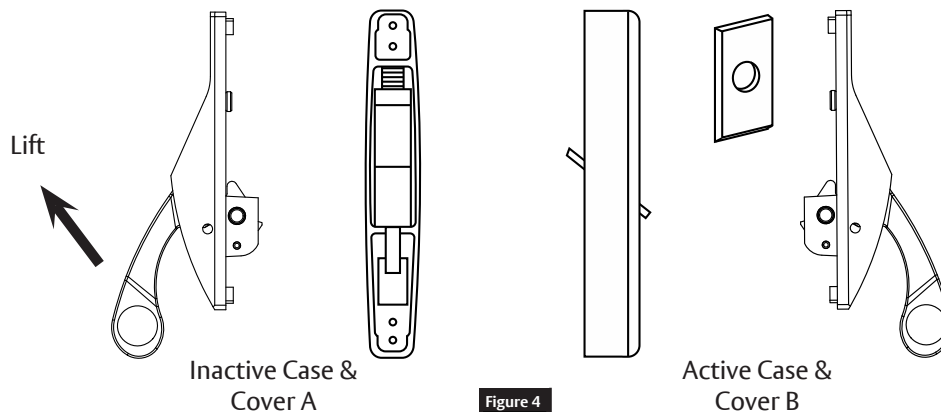

Figure 4
- a. Place cover from present active case (A) on inactive case, engaging lifting finger with bottom of slide. (Figure 4)